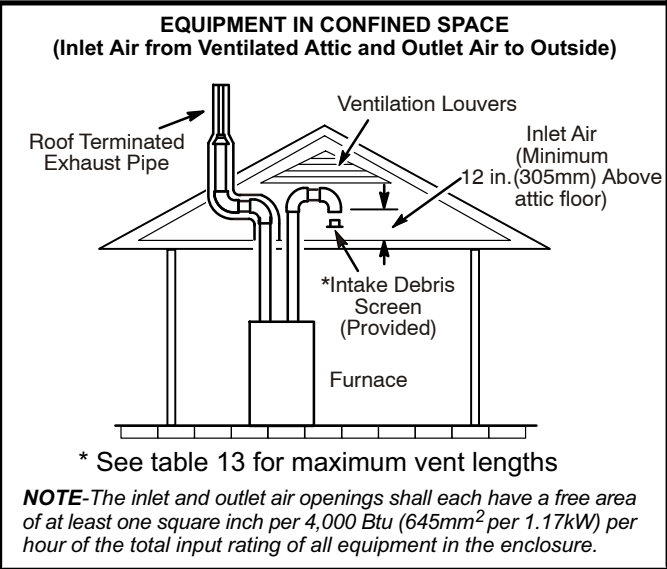
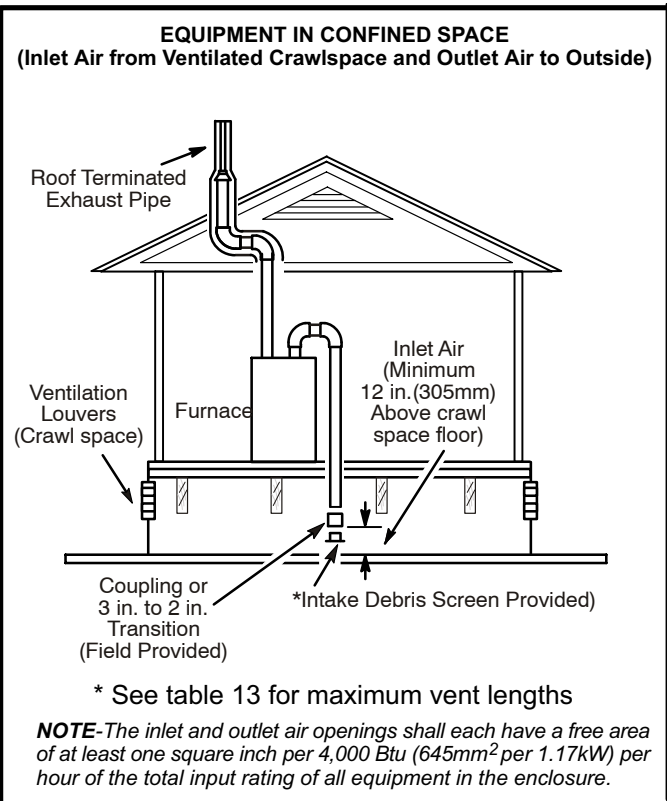

FIGURE 29
FIGURE 30
- 2 - If intake air is drawn from a ventilated attic (figure 29) or ventilated crawlspace (figure 30) the exhaust vent length must not exceed those listed in table 13. If 3" diameter pipe is used, reduce to 2" diameter pipe at the termination point to accommodate the debris screen.